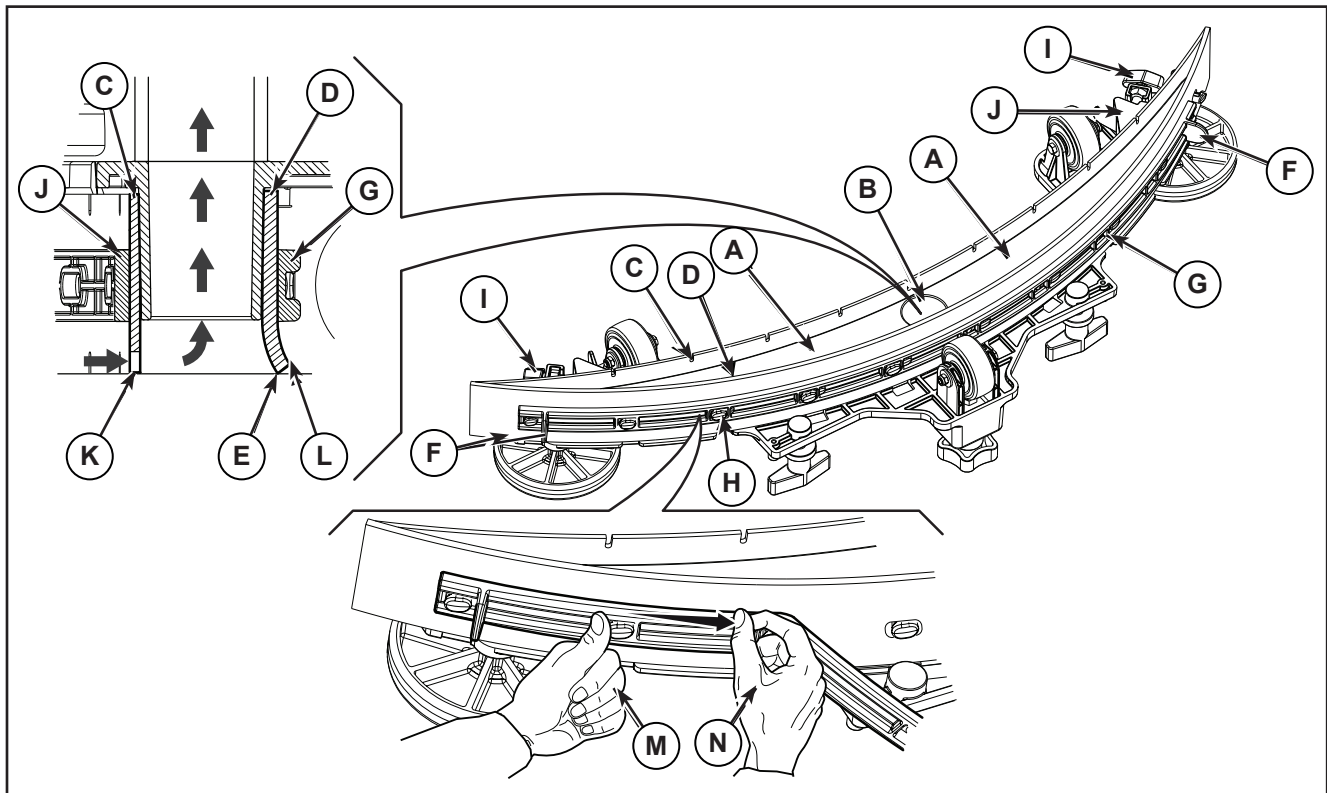

Figure 4:
2. Check the condition of the front (C) (Figure 4) and rear (D) blades, ensuring there are no cuts and tears; if necessary, replace them as shown below. Check that the front corner (E) of the rear blade is not worn; otherwise, turn the blade to replace the worn corner with one of the three remaining intact corners. If the other corners are worn too, replace the blade according to the following procedure:
- Using the tab (F), release and remove the elastic strap (G) from the fasteners (H), then turn or replace the rear blade (D).
- Install the blade in the reverse order of removal. Fix the elastic strap (G) to the fasteners (H) starting from one side. Constrain to the fastener one by one, with the hand (M) blocking the elastic strap before the fastener and pulling with the other hand (N) for fixing
- Unscrew the handwheels (I) and remove the strap (J), then turn or replace the front blade (C).
- Check that the lip (K) of the front blade (C) and the lip (L) of the rear blade (D) are resting as shown in the figure.